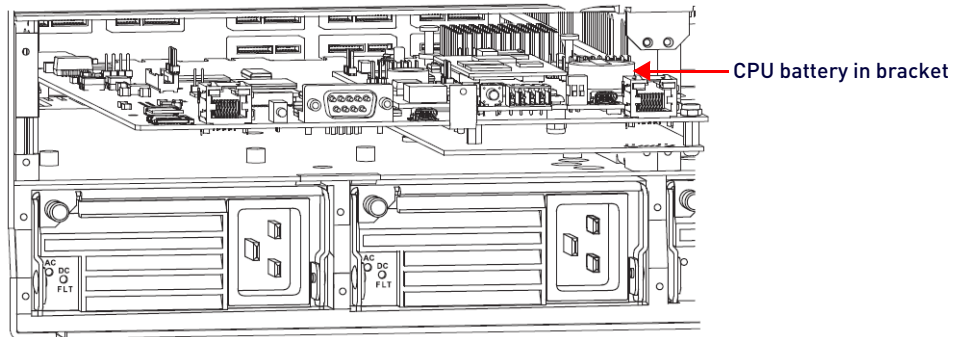

FIG. 135 CPU battery bracket
7. Locate the CPU battery on top of the CPU (FIG. 135):